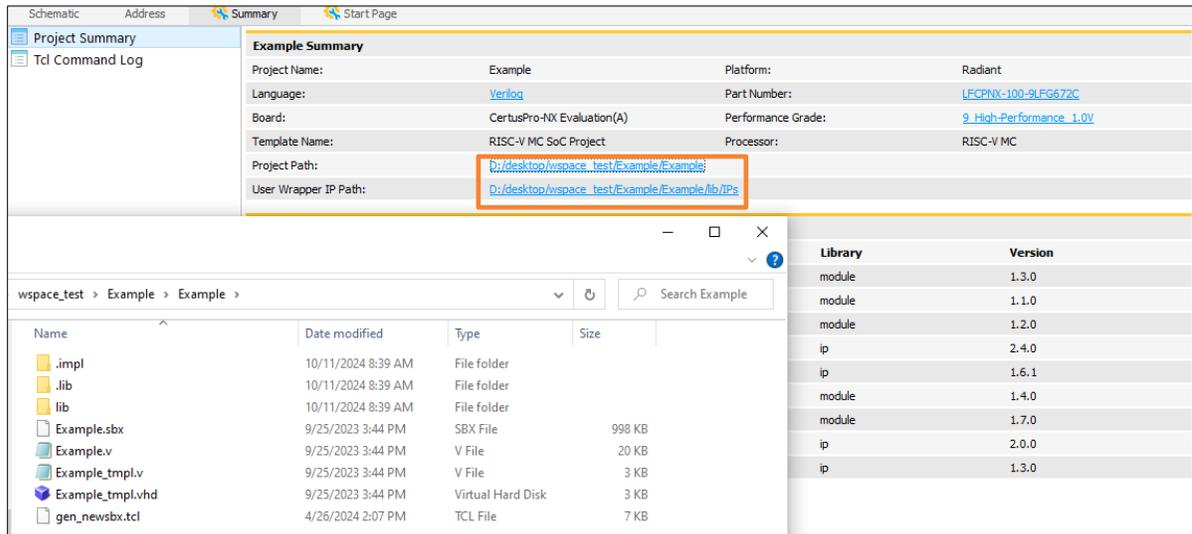

Figure 2.13. SoC Project Summary – Project Path or User Wrapper IP Path
- Click **Project Path** or **User Wrapper IP Path** link in **Summary** (Figure 2.13) to open the project folder or open the user wrapper IP folder in library.